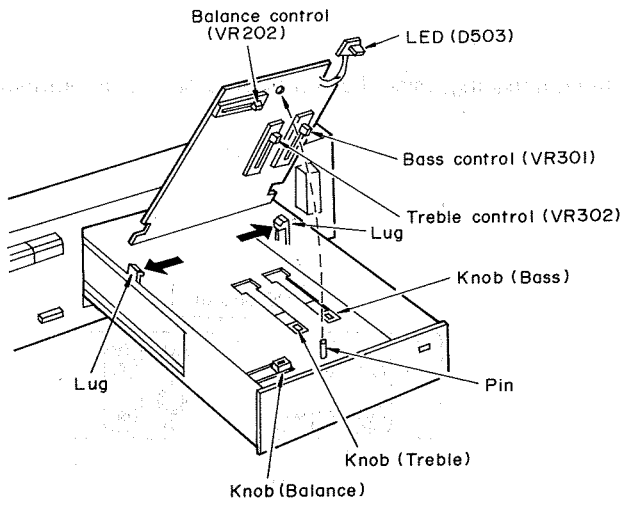

Fig. 16
- (6) Push the lug of tone control box in the direction shown in Fig. 16 to remove the P.C.B.
- (1) When mounting the tone control P.C.B. after its removal, set the bass, treble and balance control volume to the positions shown in Fig. 16, and also set the position of each knob as in Fig. 16.